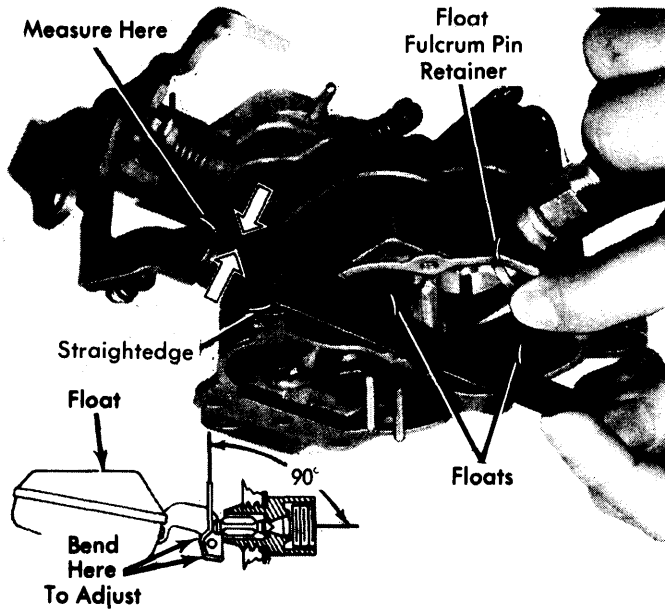

Fig. 3 Adjusting Float Level (Chrysler Corp.)
**Chrysler Corp - 1)** Remove air horn. Turn main body upside down. Catch accelerator pump check ball as it falls out. Hold float pin retainer in with finger. Weight of float should be closing float needle. See Fig. 3.